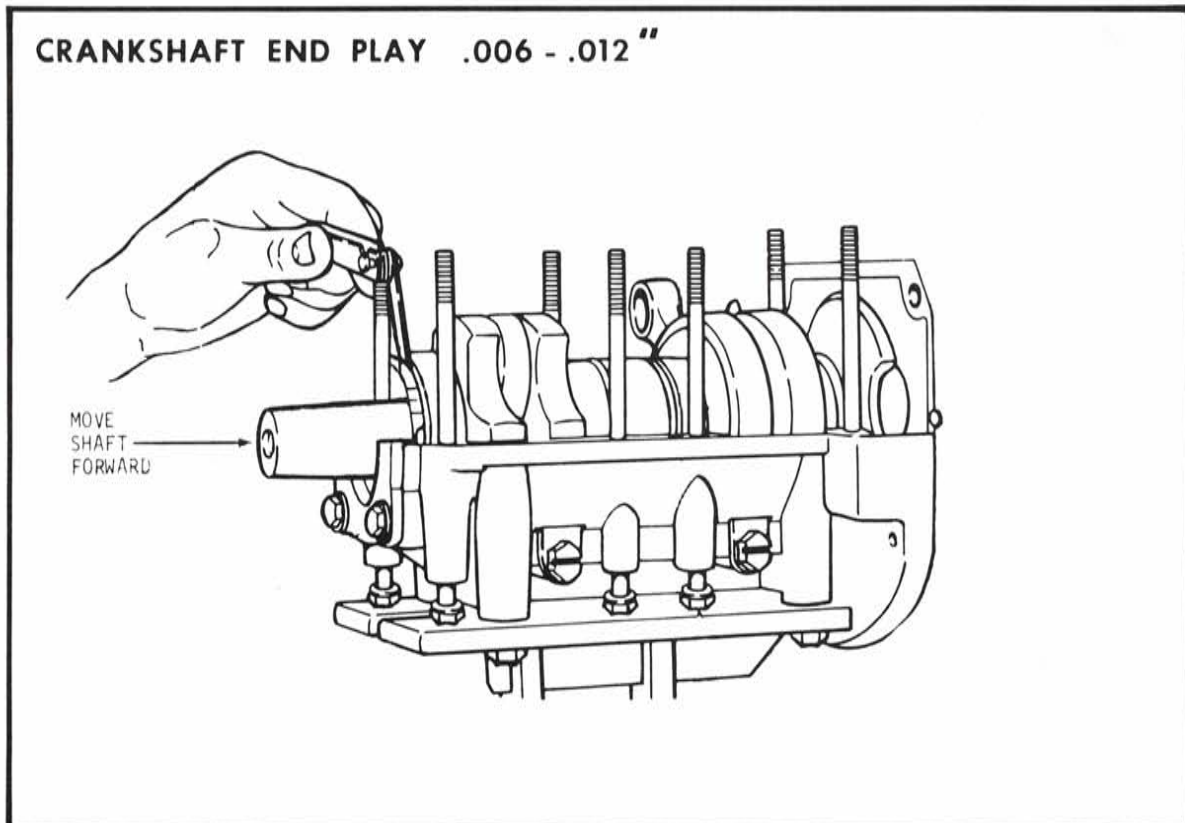

FIG. 31
- E. The correct clearance is attained by installing .006" shims between the bearings and snap ring. If, for example, a clearance of .033" is measured, subtract .009" (nominal end play .006" - .012") from .033" to determine the uncorrected end play which in this case is .024" (.033" - .009" - .024"). Next, divide .006" (thickness of shims) into .024" to determine number of shims required. As final proof subtract the total thickness of the 4 shims (.024) from the actual measurement (.033") to arrive at the adjusted end play which is .009". This is within acceptable end play limits of .006" to .012". When installing, put an equal number of shims at each end of the shaft whenever possible. (Fig. 31)